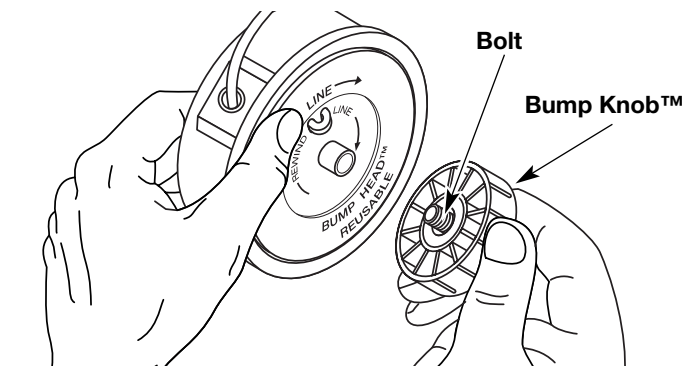

Fig. 12
1. Hold the outer spool with one hand and unscrew the Bump Knob™ counterclockwise (Fig. 12). Inspect the bolt inside the Bump Knob to make sure it moves freely. Replace the Bump Knob if damaged.
- Hold the outer spool with one hand and unscrew the bump knob counterclockwise (Fig. 12). Inspect the bolt inside the bump knob to make sure it moves freely. Replace the bump knob if damaged.